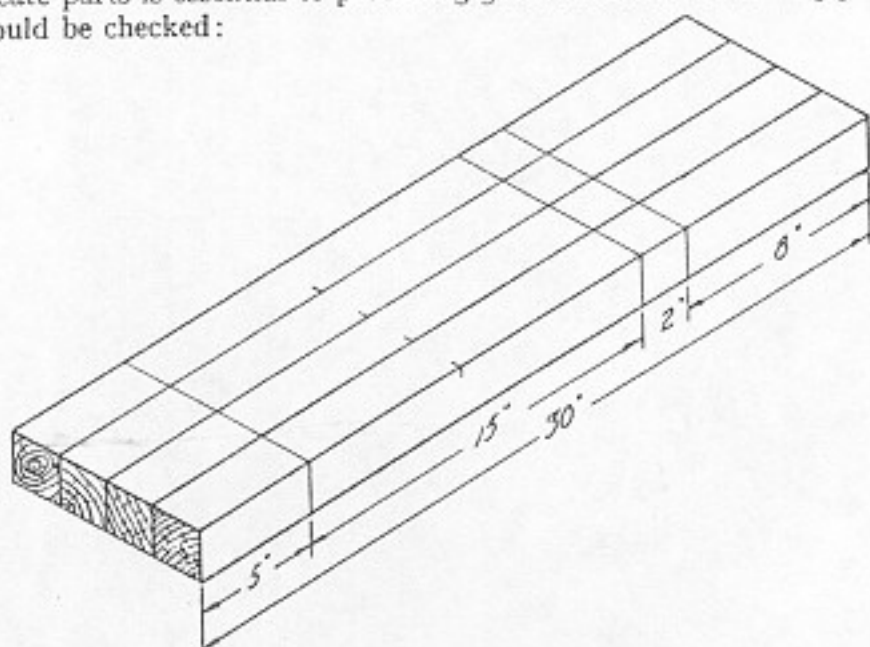

Fig. 59. Laying out measurements on duplicate parts.
3. Measurements laid out on one member are transferred to the other members by placing them side by side and squaring lines across (Fig. 59).